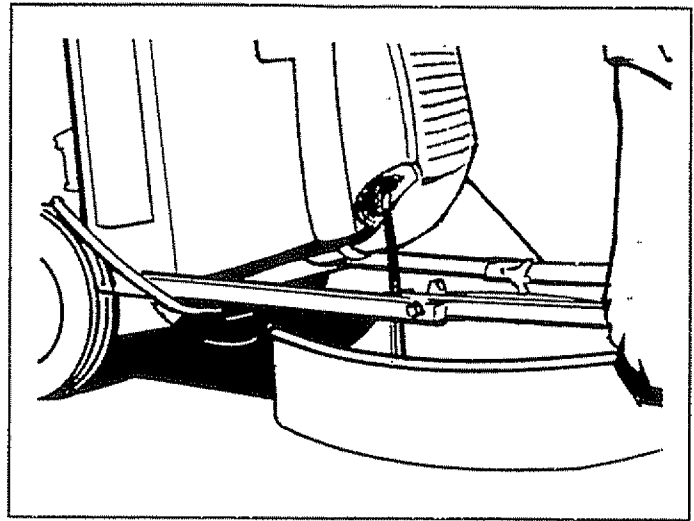

FIG. 19
- Tip your pressure washer as shown in Fig. 19 to drain oil completely into a suitable container. When tipping the pressure washer, keep the engine muffler side up.